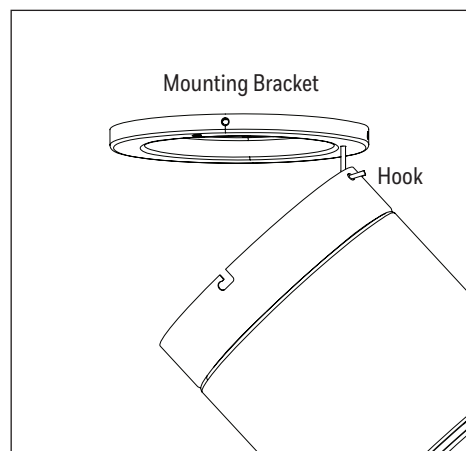

Figure 2.3
3. Raise the fan and place top of the motor assembly on the hook on the mounting bracket, temporarily leaving hands free for the wiring process (Figure 2.3).